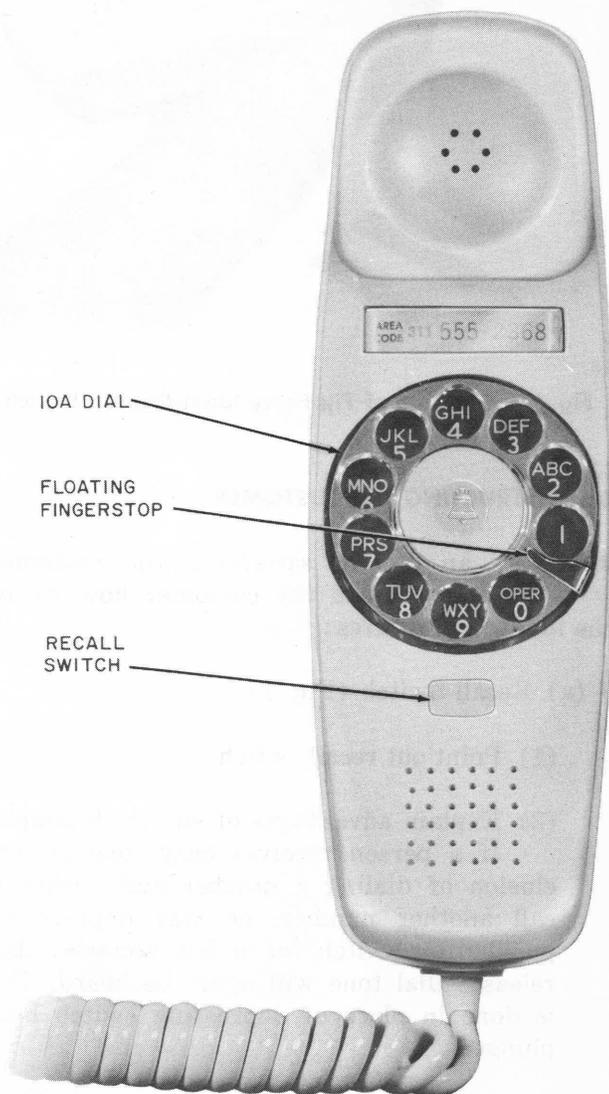

Fig. 1 — 220A Hand Telephone Set
1.01 This section describes installation and maintenance procedures for the 220A Hand Telephone Sets (Fig. 1).
(a) Recall Switch (Fig. 1)